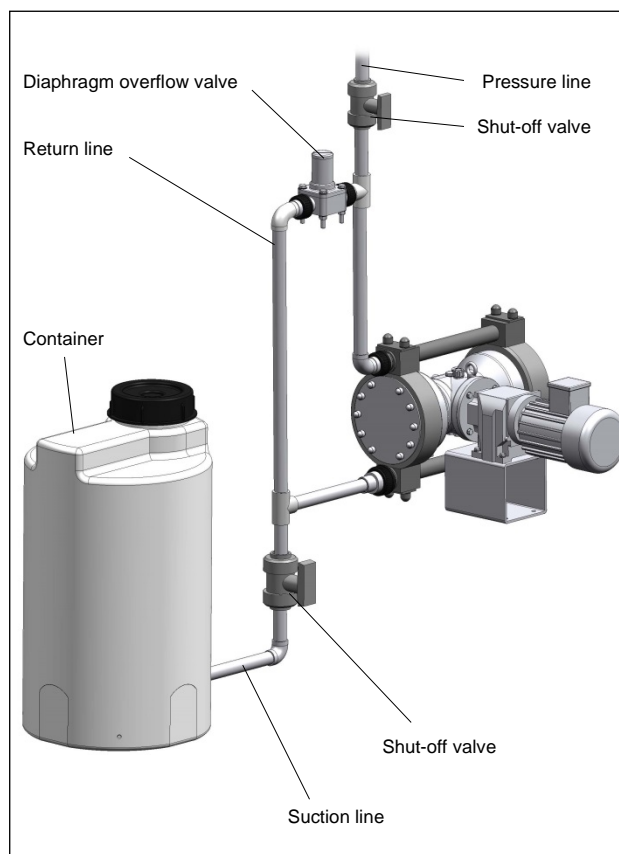

Fig. 18 System with overflow valve
- or connect the overflow line directly to the pump suction line, but only if there is no check valve inside the suction line (e.g. foot valve of a suction lance) (please see. Fig. 18)